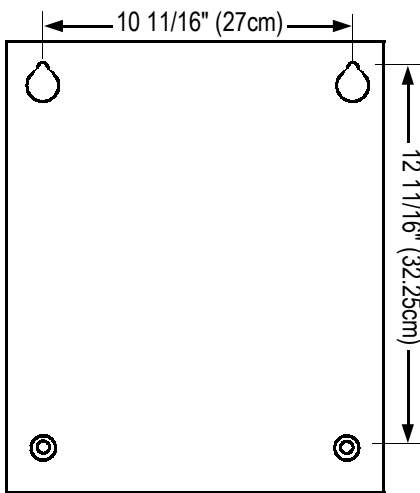

Figure 4 - Super Two Cabinet Mounting Hole Dimensions
2. Mark the four mounting holes against the mounting surface using the Super Two cabinet as a template or using the measurements provided in Figure 4.